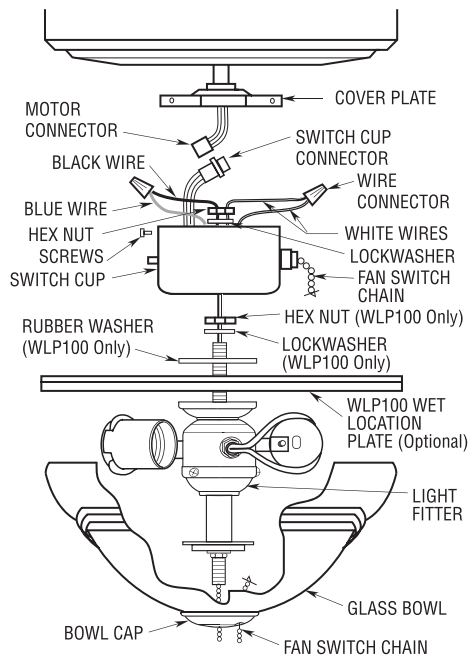

Figure 2
7. Insert the black and white wires from the light fitter through the center hole in the switch cup (Figure 2) and thread the switch cup onto the light fitter. Hold wires taut while installing switch cup to prevent the wires from twisting. Firmly tighten the fitter until the fan switch chain(s) aligns with the slot(s) in the base fitter (Figure 2).
8. If installing in a wet location: Install the light fitter onto the WLP100 plate using the lockwasher, nut and rubber washer supplied with WLP100 wet location plate. Place the rubber washer on the top of the wet location plate, then place the light fitter through the center hole of the wet location plate, secure with lockwasher and nut (Figure 2)
10. Connect the white neutral wire from the switch cup to the white neutral wire of the light fixture (Figure 2). Connect the blue line (hot) wire from the switch cup to the black line (hot) wire of the light fixture. Use listed wire connectors (previously removed in step 6) to make connections (Figures 2 and 3). The neutral and line (hot) wires must be installed as instructed to maintain proper polarity at the lampholders.
11. Carefully tuck all wires and connectors into the switch cup (Figure 2).